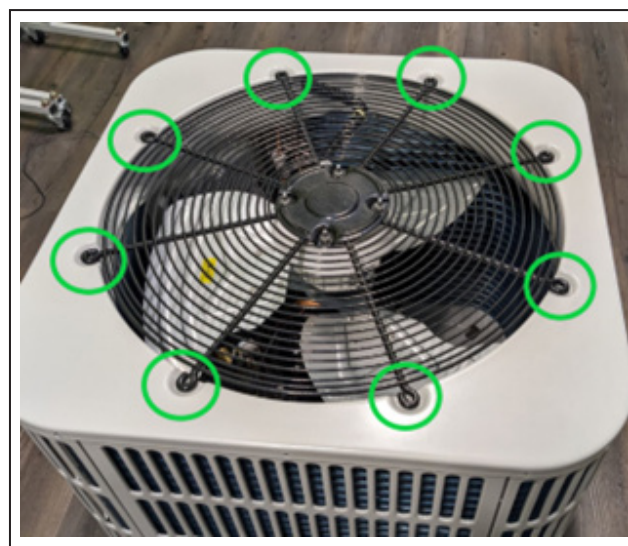

Fig.2
3. Work your way around the edge of the fan grille and remove all screws that are holding it in place (see Fig.2). Please note that the quantity of screws and the grille shape may vary from model to model;